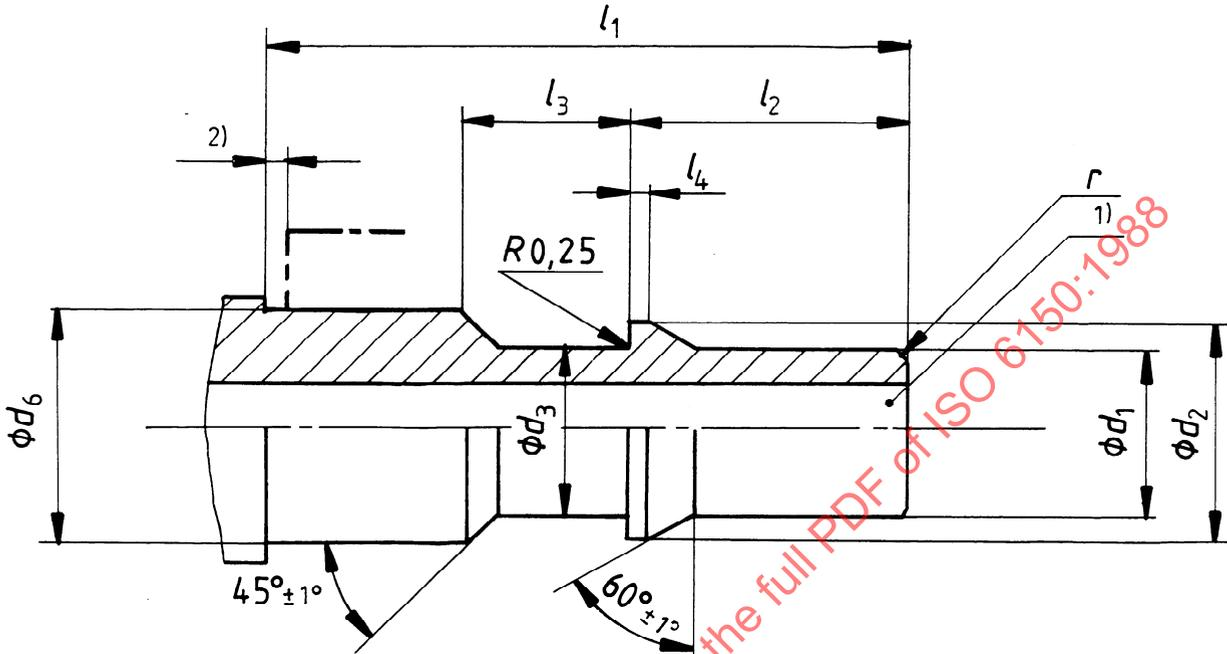

Figure 3 – Plug for 25 bar (2,5 MPa) maximum working pressure (series C)
4.2.3 The dimensions and tolerances for plugs on series C cylindrical quick-action couplings are shown in figure 3 and given in table 3.